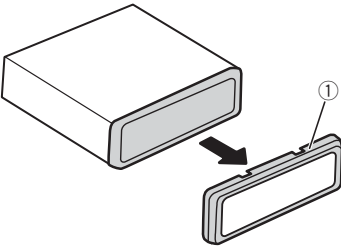

Fig. 2
1. **Extend top and bottom of the trim ring outwards to remove the trim ring. (Fig. 2)**
- ① Trim ring